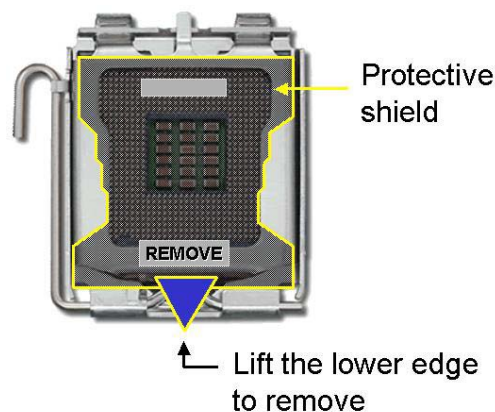

Figure 4-2: Remove the CPU Socket Protective Shield
Step 1: Remove the protective cover. Remove the black protective cover by prying it off the load plate. The protective cover is used to protect the delicate pins on the LGA775 socket. To remove the protective cover, locate the “**REMOVE**” sign and use your fingernail to pry the protective cover off. (See **Figure 4-2**)